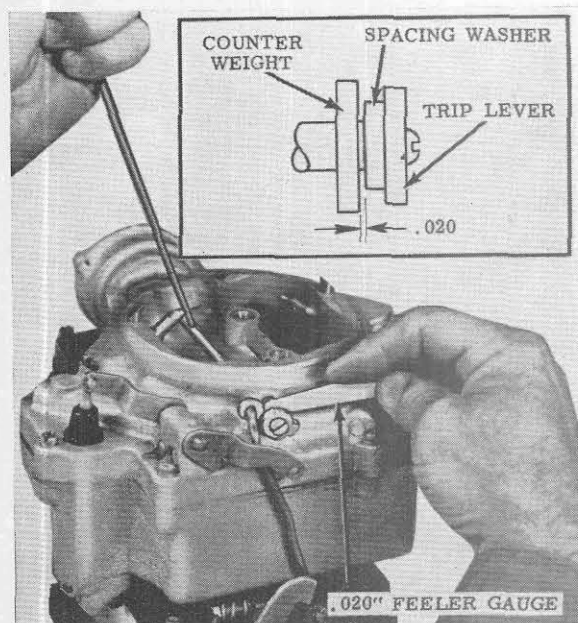

Figure 7-31
19. To provide correct fit of choke valve in air horn, push lightly on choke shaft to obtain a *minimum* clearance of .020" between spacing washer and lever and collar assembly. (Figure 7-31.) While holding in this position tighten choke valve retaining screws.